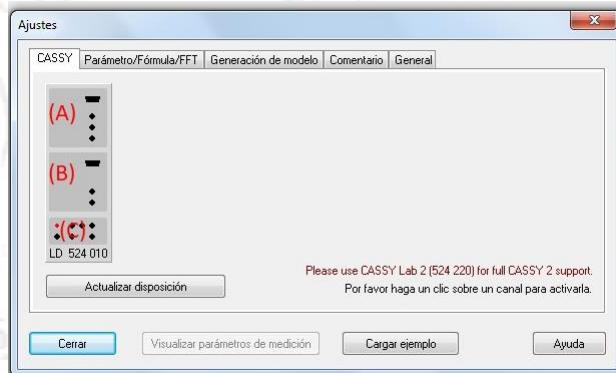

Figure 7. "Ajustes" of CASSY. Click on (A), (B) and (C)
- **First**, in the option CASSY, click in the three images of the left, (A), (B) and (C) of Figure 7 (UA1, UB1 and data). This will activate all the buttons that were not active in the menu (upper-left of the screen)